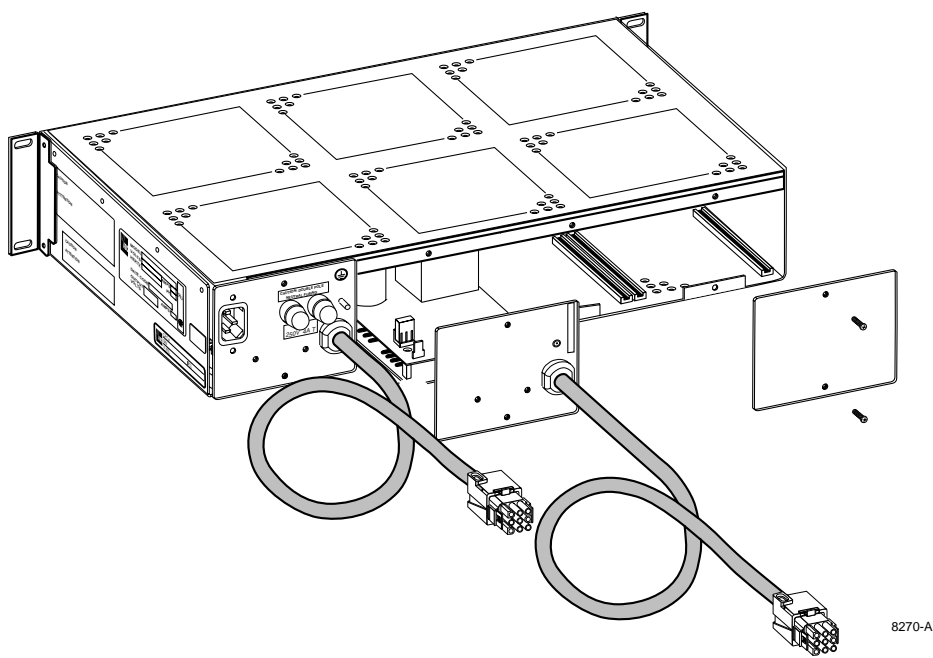

Figure 4. DMPS-10 EXP/CE Module Installation
- (d) Holding the expansion module with the “U” shaped base down and the 5-pin connector plug forward, slide the module into the power supply, as shown in Figure 4, until the connector pins engage the connector socket on the forward edge of the power supply. Push in firmly to ensure proper connection of all pins in the plug.